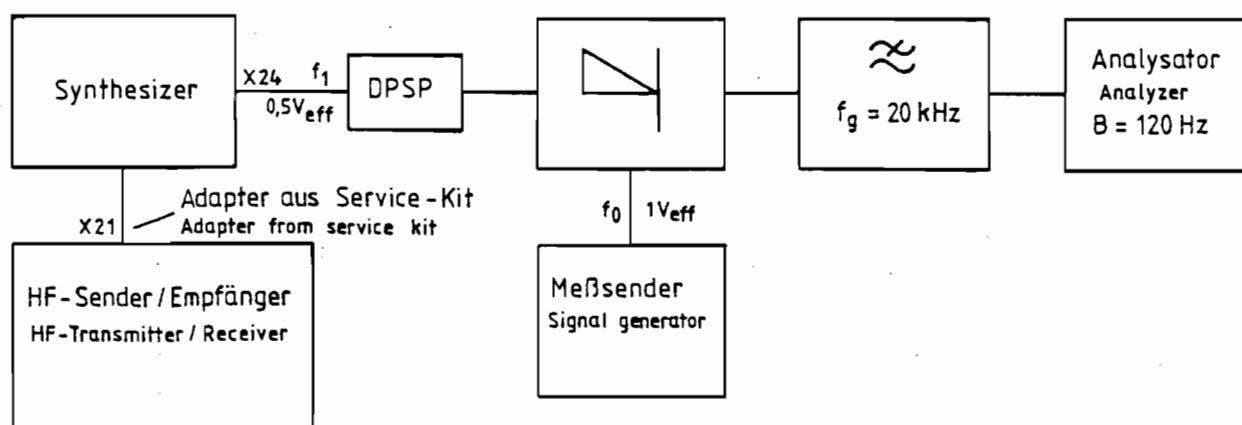

Fig. 6.6 Test Setup for Noise Measurement
1. Install test set-up acc. to Fig. 6.6.